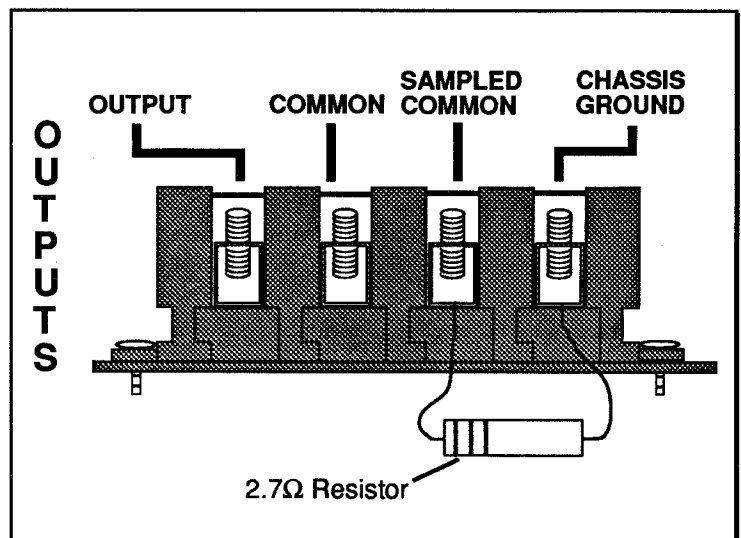

Figure 2 Removing the 2.7Ω Resistor
3. On the back of the amplifier (see Figure 2), remove the 2.7Ω 2w resistor connected between Sampled Common and Chassis Ground. Do so for all amplifiers except the master amplifier. (This resistor functions as a "fuse" for circulating ground currents that may be present due to incorrect wiring.)